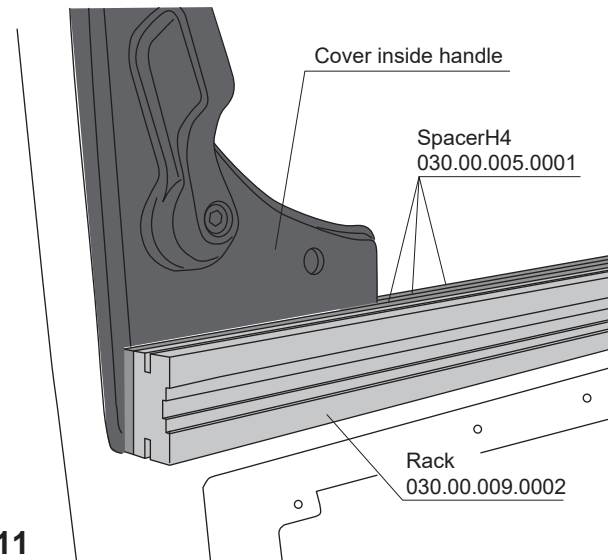

Fig. 11
2. 1205 mm (over the inside handle cover, Fig. 11 and 12)